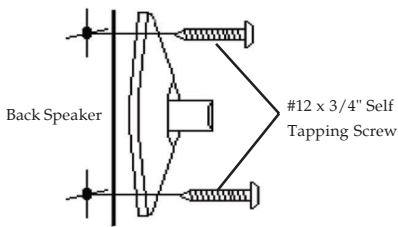

Figure 6
2. Drill the pilot hole(s) using a 1/8" drill bit. The hole(s) should not be drilled more than 1/2" depth, see **Figure 6** on the next page.